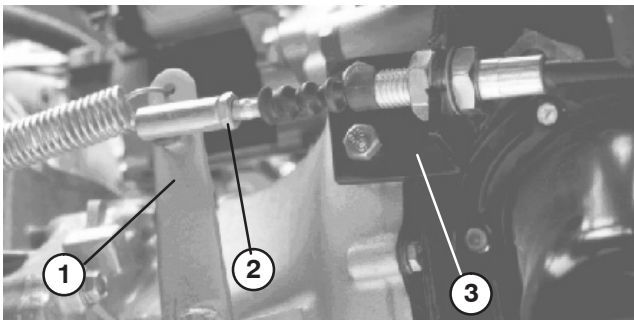

Figure 1
3. At the rear of the machine, disconnect the old clutch cable from the clutch lever ball joint (Fig. 1).
4. Remove the (2) capscrews securing the clutch cable mounting bracket to the bell housing (Fig. 1). Retain the capscrews.